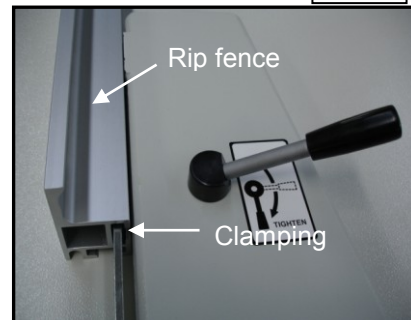

Fig. 14
6. Thread the lock handles (Fig. 14) into the rip fence body and loosely install the fine adjustment knob.
8. Slide the alum. Rip fence onto the clamping plate (Fig. 14) and lock it with the handle on the top of the rip fence body.
9. Adjust the nuts on the outside of the table until the edge of the rip fence is parallel with the sliding table (Fig. 14), aligning the fence with the edge of the sliding table.